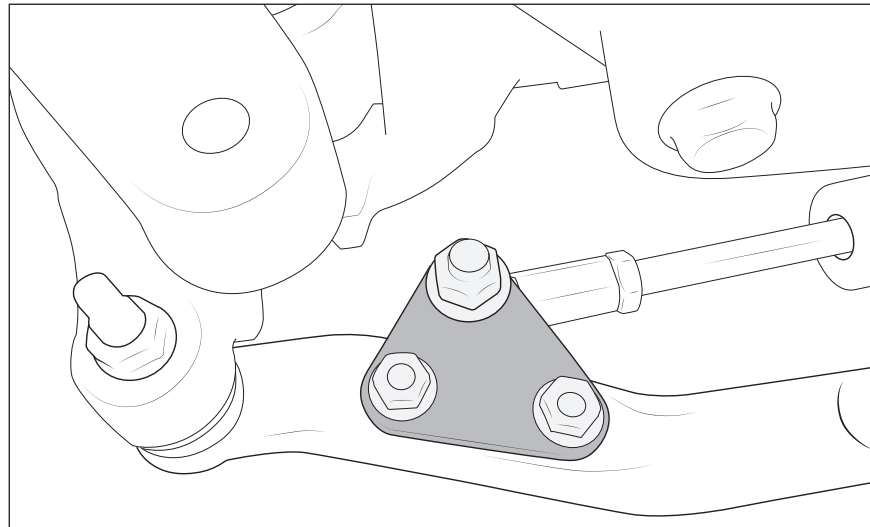

Figure 7
5. Bolt new plates onto the tie rod link using factory hardware. Torque to 50 ft-lbs. NOTE: Plate orientation is important, install as shown (fig. 7).